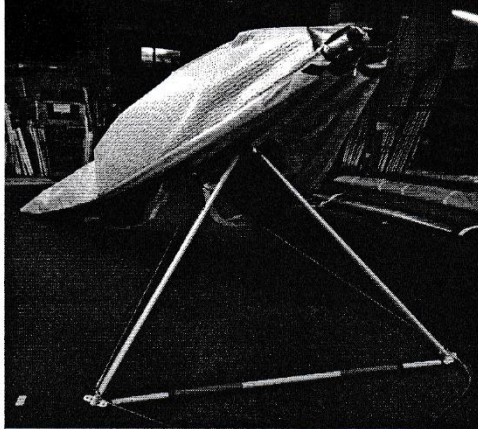
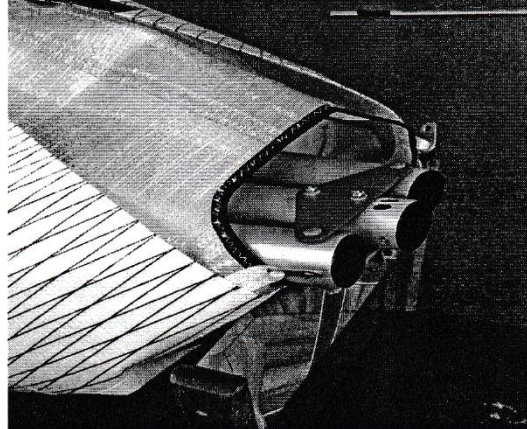

Figure 63
Figure 64
7. Fold wings completely (fig. 63). Lower the wing on the ground or on the support. Remove keel battens from the wing (fig. 64).